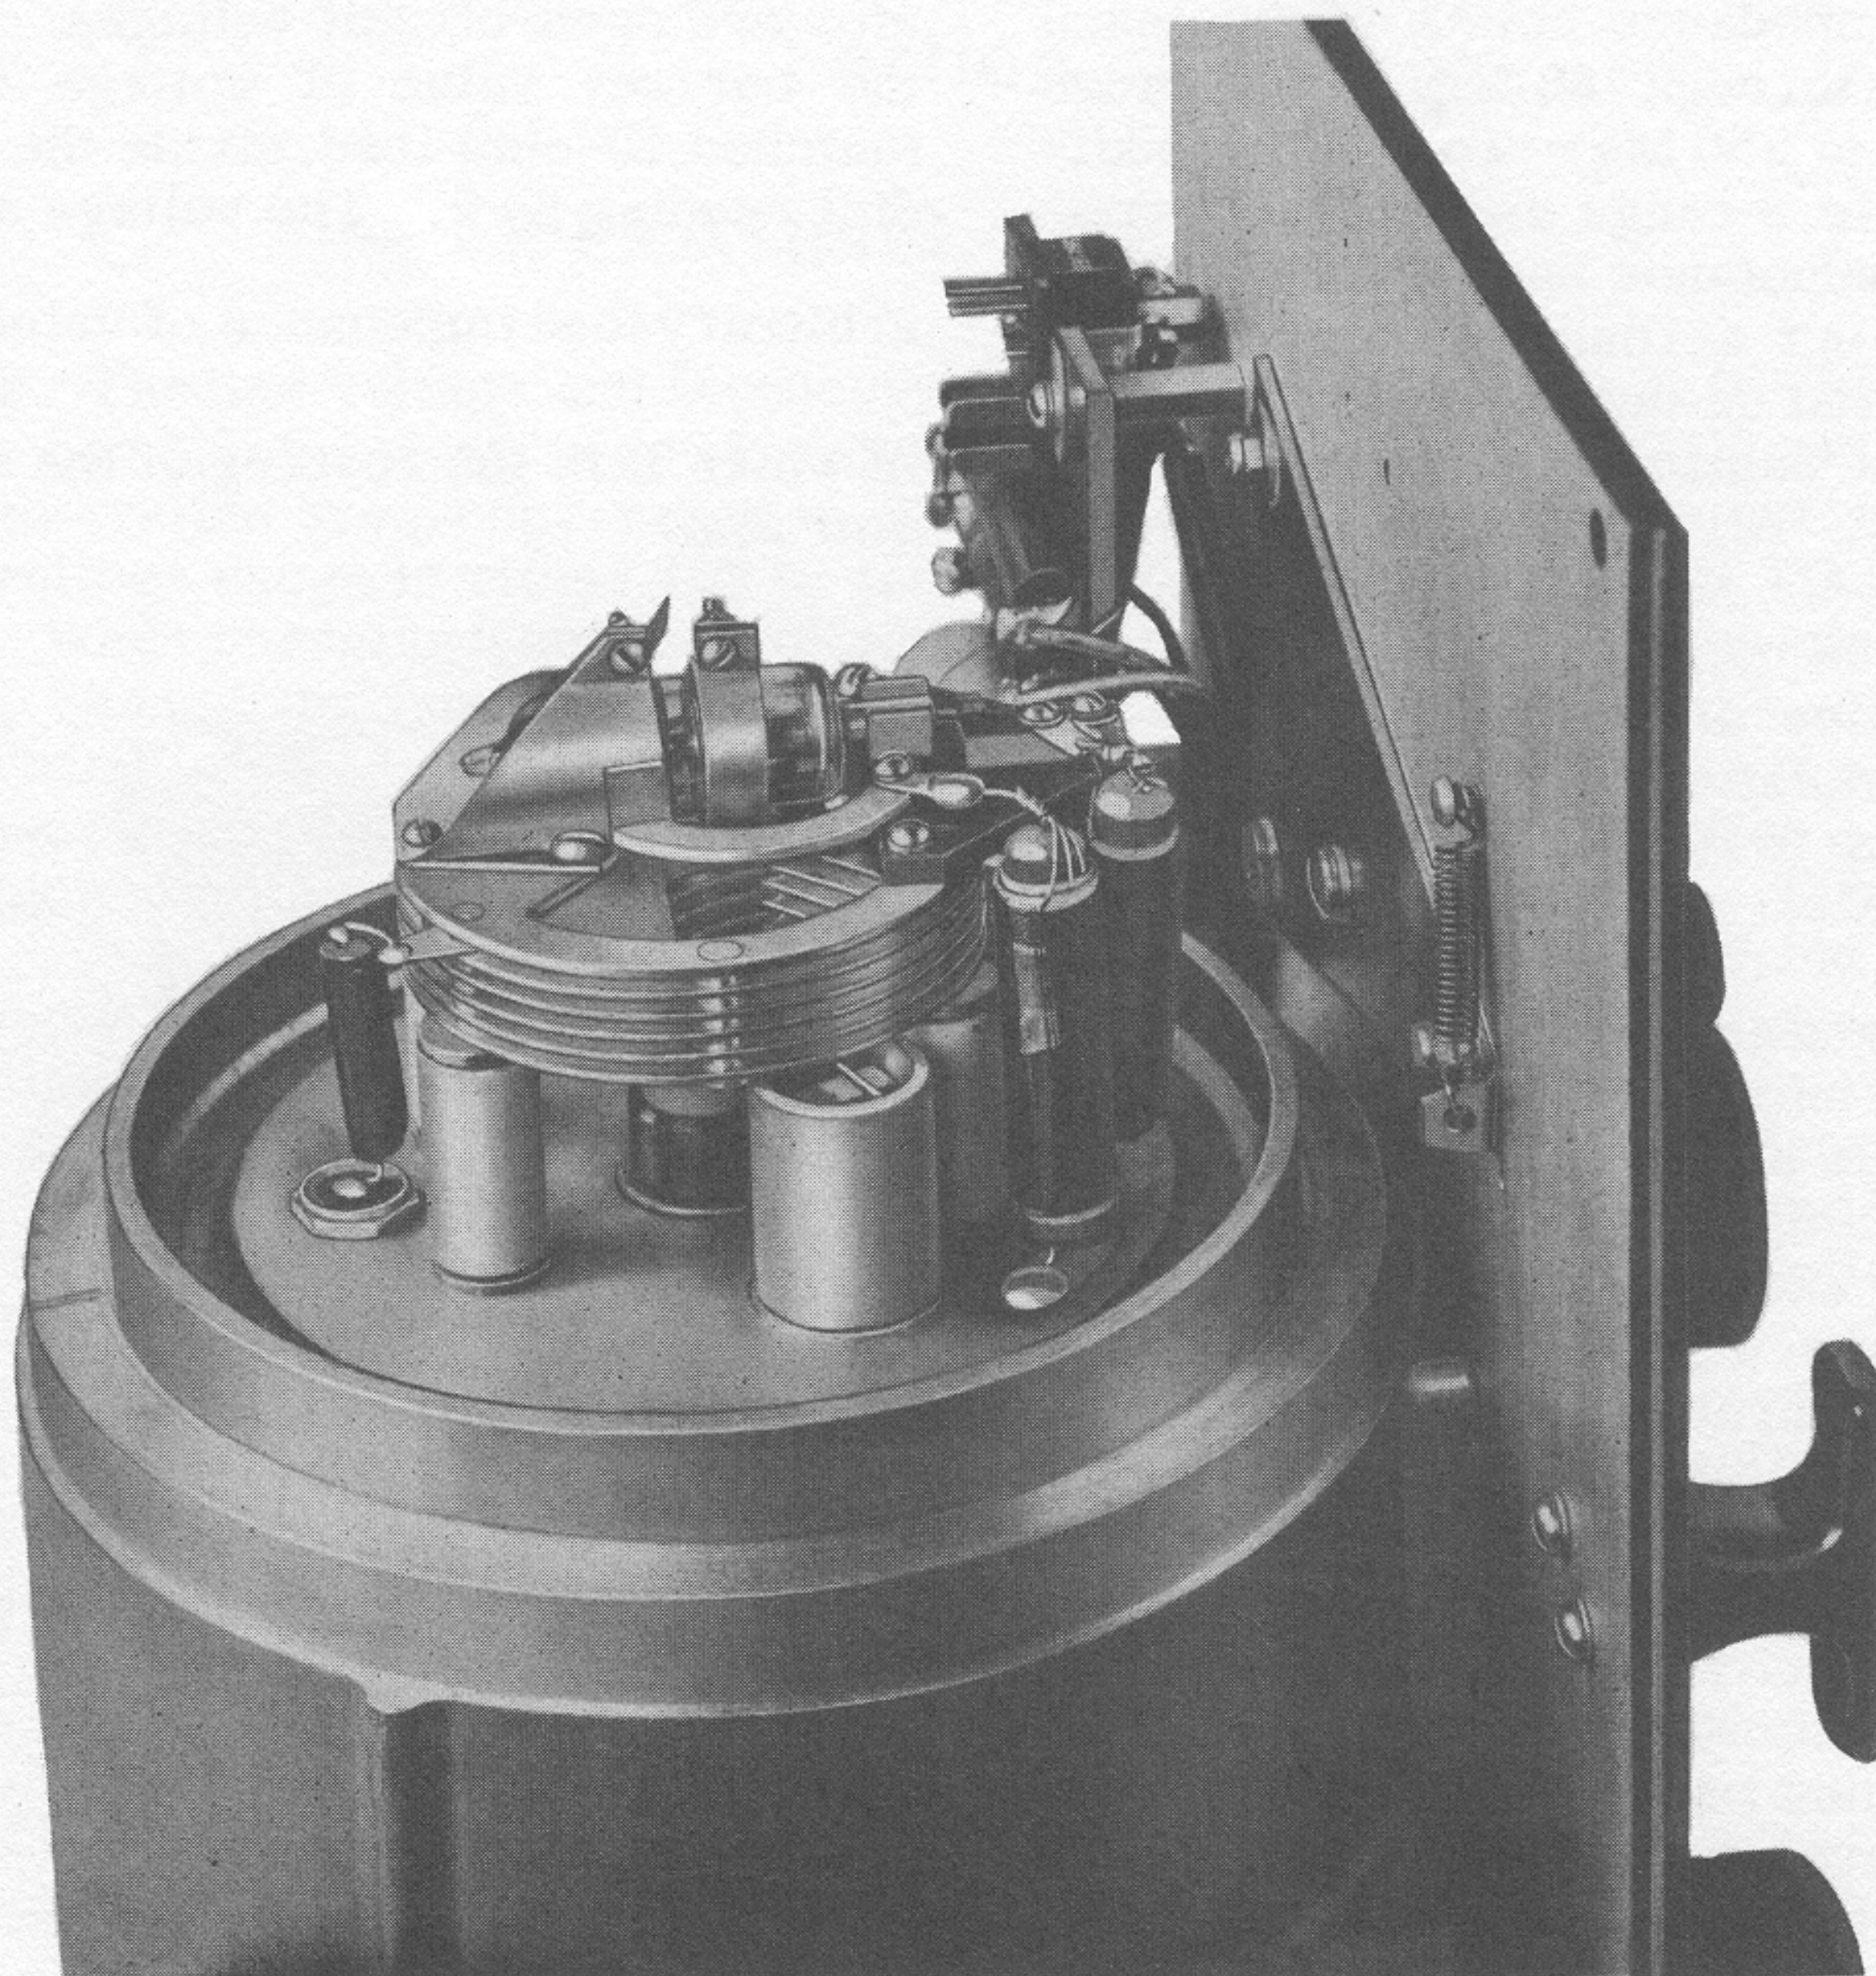

Figure 3. Type 1021-P2 U-H-F Unit, Cover Removed to Show Tube and Butterfly Circuit.
2.2.1 TYPE 1021-P2 (250-920 MC). (For schematic diagrams, see Figures 9 and 10.) The Type 1021-P2 R-F Unit is housed within two concentric shields on a cylindrical aluminum casting. The tuning unit is a 2-1/2-inch-diameter butterfly circuit (Figure 3) in which both inductance and capacitance are varied without the use of sliding contacts. The wide frequency range is covered by a rotation of about 80 degrees of the rotor.